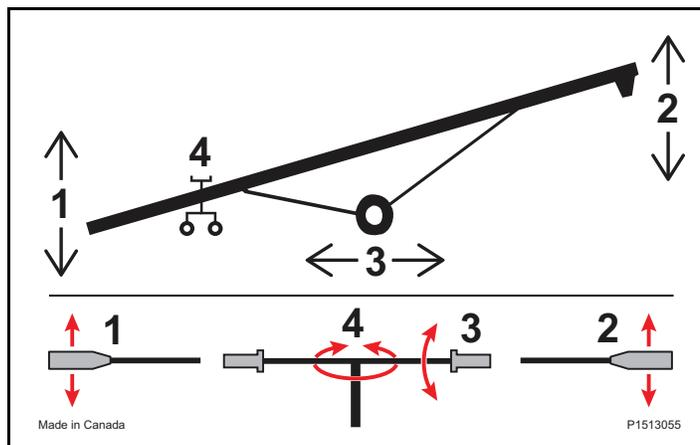

Figure 5.2 Self-Propelled Kit Controls
1. With the engine at idle, use the control valve (Figure 5.2) to fully lower the auger before moving it into position.
2. Position the auger using the controls as shown in Figure 5.2.